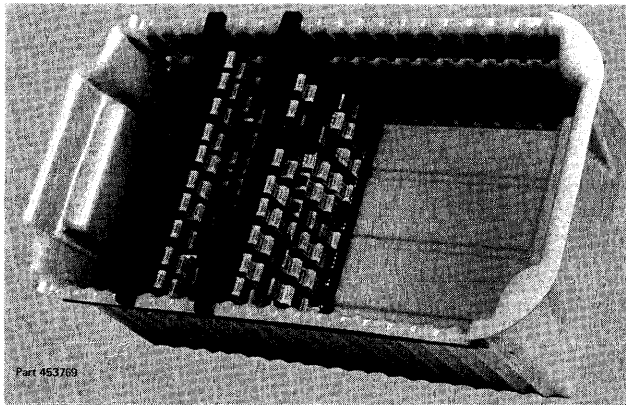

Figure 3-27. Card Caddy
1. Remove all the cards from the board to be replaced and place them in the card caddy (Figure 3-27).